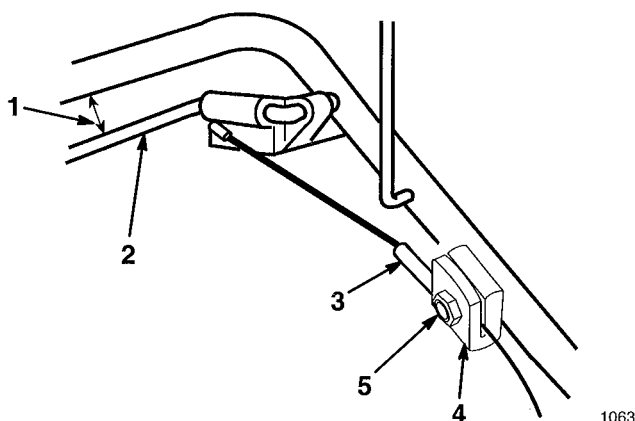

Figure 28
1. Loosen nut on cable support (Fig. 28).
2. Hold self-propelled bail 1 to 1 1/2 in. (25 to 38 mm) from handle (Fig. 28).